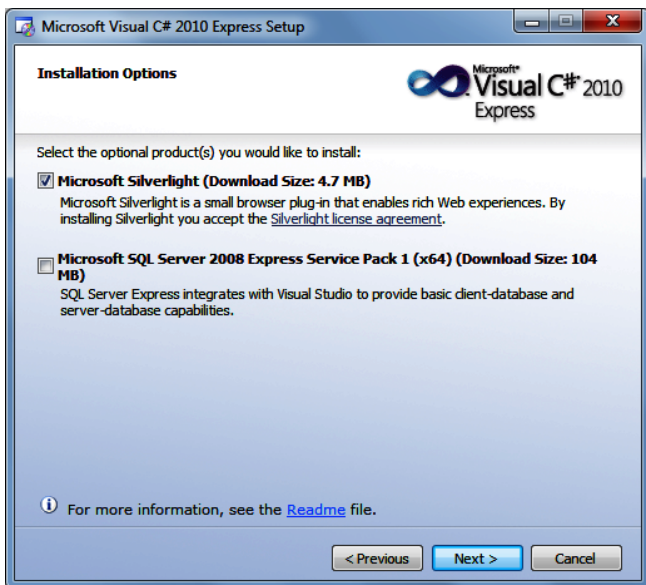

Figure 2-1. *Optional installation packages*
3. At this step, you may optionally install additional software packages (Figure 2-1). None of these products are required to write apps for your Netduino.